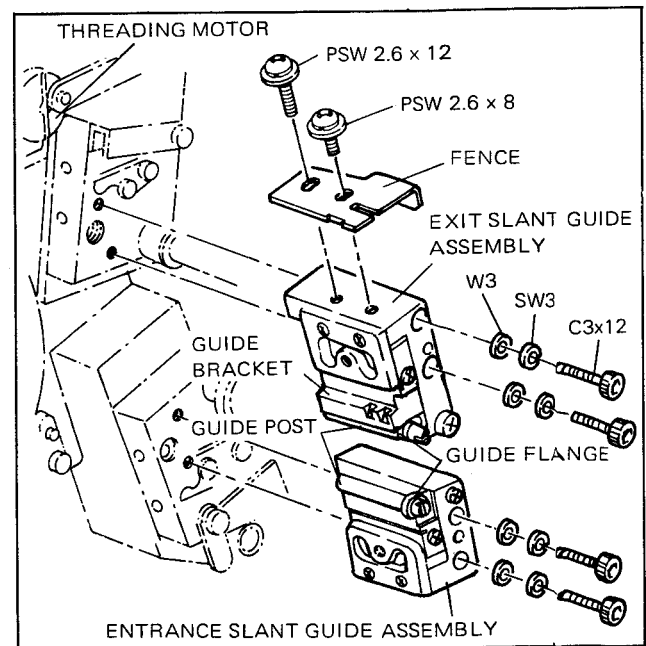

Fig. 6-23. Removal of Slant Guide Assembly
- This section provides the replacement and adjustment procedures for the guide post, guide flange and entrance guide bracket of the entrance/exit slant guide assembly (see Fig. 6-23).